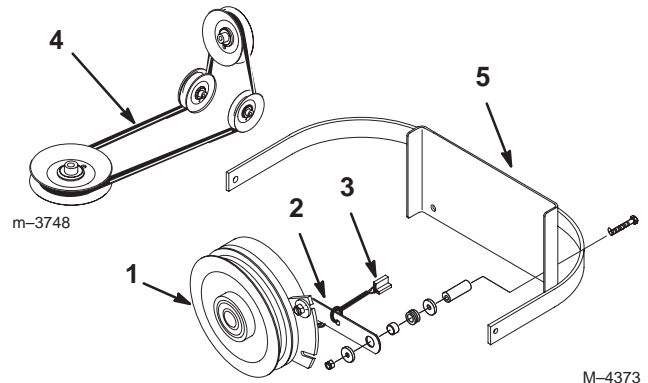

Figure 62
2. Remove the clutch retaining strap from machine frame and unplug clutch terminal from wire harness (Fig. 62).
7. Install clutch retaining strap and plug clutch terminal into main wire harness (Fig. 62).